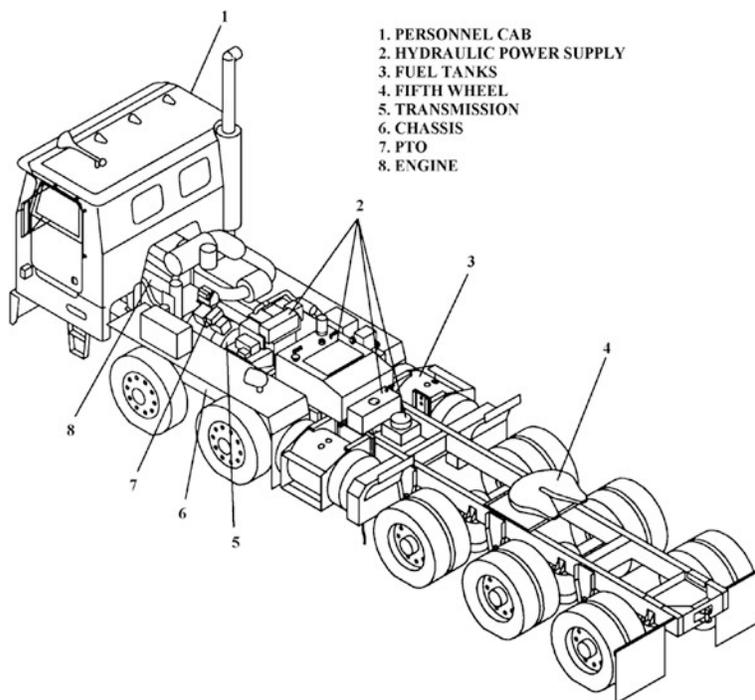
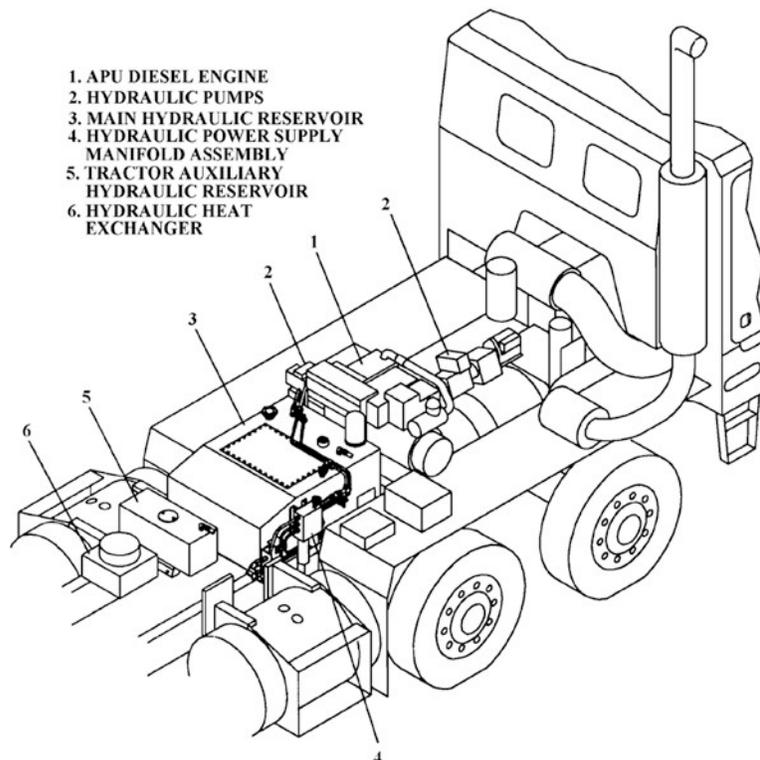

Figure 1-9. TE tractor.
Figure 1-10. TE tractor hydraulic power supply.
The TE tractor (fig. 1-9) is a motor vehicle used to tow the TE semitrailer. Beyond the normal components that make up a tractor, such as the cab and the engine, TE tractors also consist of the following major components:
The PTO unit (fig. 1-9, item 7) is a clutch located on the transmission. When the PTO is engaged it drives the auxiliary hydraulic pump that will provide the needed hydraulic power.
The TE tractor hydraulic power supply (fig. 1-9, item 2) provides the required fluid pressure to operate the TE emplacement system and missile positioner. The hydraulic power supply (fig. 1-10) consists of the following components: